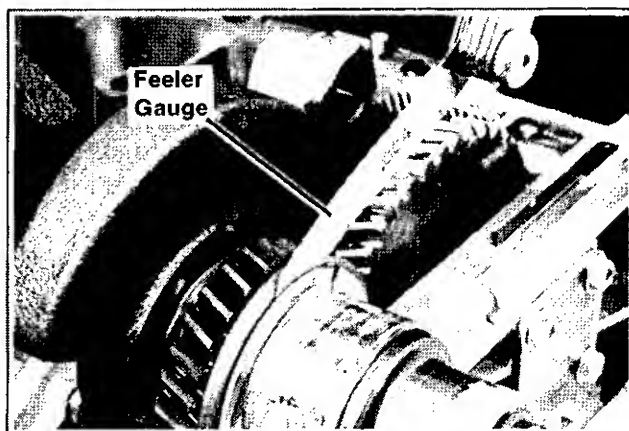

Figure 8-9. Checking Crankshaft End Play
3. Check crankshaft end play with a feeler gauge (see Section 1 - "Specifications" and "Tolerances"), then add correct thrust washer to bring clearance within specification (see Figure 8-9). Three sizes of thrust washers are available: .123/.126, .130/.133 and .138/.141. Refer to the parts manual for part numbers of these washers.